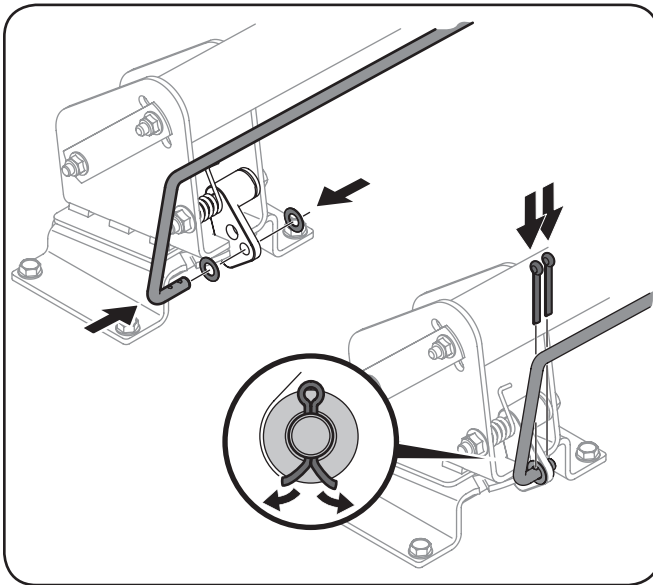

Figure 3-6
1. Secure the handle pivot rod control onto the swing handle link using the two thrust washers and cotter pins as shown in Figure 3-6.